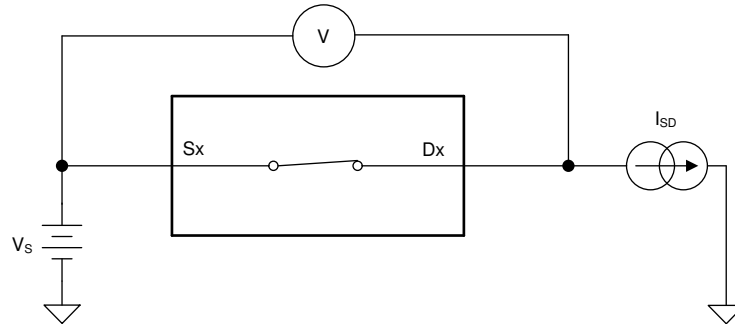

图 7-1. On-Resistance Measurement Setup
The on-resistance of a device is the ohmic resistance between the source (Sx) and drain (Dx) pins of the device. The on-resistance varies with input voltage and supply voltage. The symbol R_{ON} is used to denote on-resistance. The measurement setup used to measure R_{ON} is shown in 图 7-1. Voltage (V) and current (I_{SD}) are measured using this setup, and R_{ON} is computed with $R_{ON} = V / I_{SD}$: